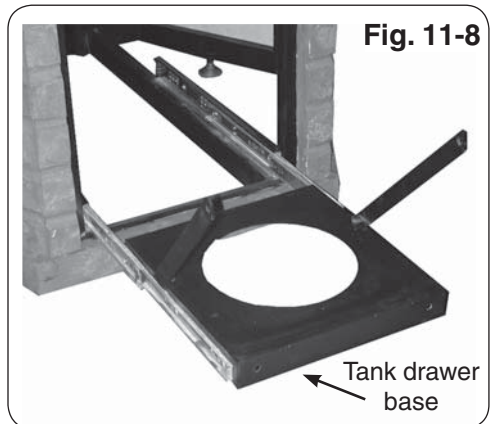

Fig. 11-8
12. The propane tank must be placed on the tank drawer (reference Fig. 11-8). Attach the regulator/hose assembly (coming from the valve assy) to the propane tank per the QUICK COUPLER OPERATION section on page 9.